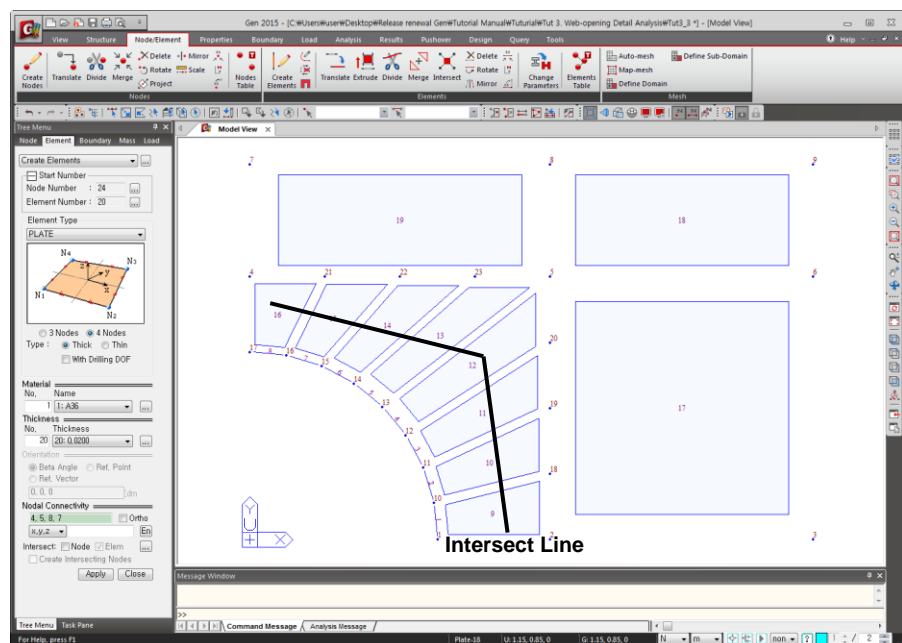

Figure 3.6 Generation of the Remaining Plate Elements of the Web
2. Use **Select by Intersecting** in the Icon Menu to select the plate elements **9 to 16** in area ① (Fig.3.6).